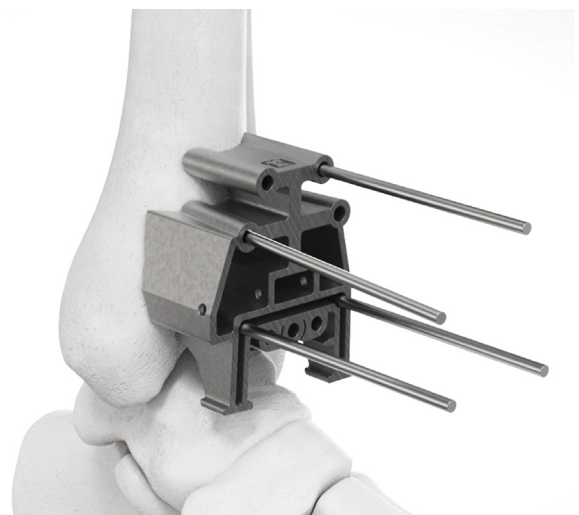

Fig. 7
1.9 Place two 2.4mm k-wires at the medial and lateral slot ends to prevent saw blade excursion. (Fig. 7)